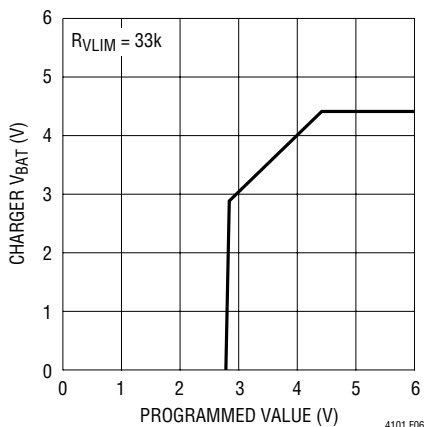

**Figure 5. Simplified  $V_{LIM}$  Circuit Concept ( $I_{LIM}$  is Similar)**
**Table 7.  $V_{LIM}$  Trip Points and Ranges (See Figure 5)**